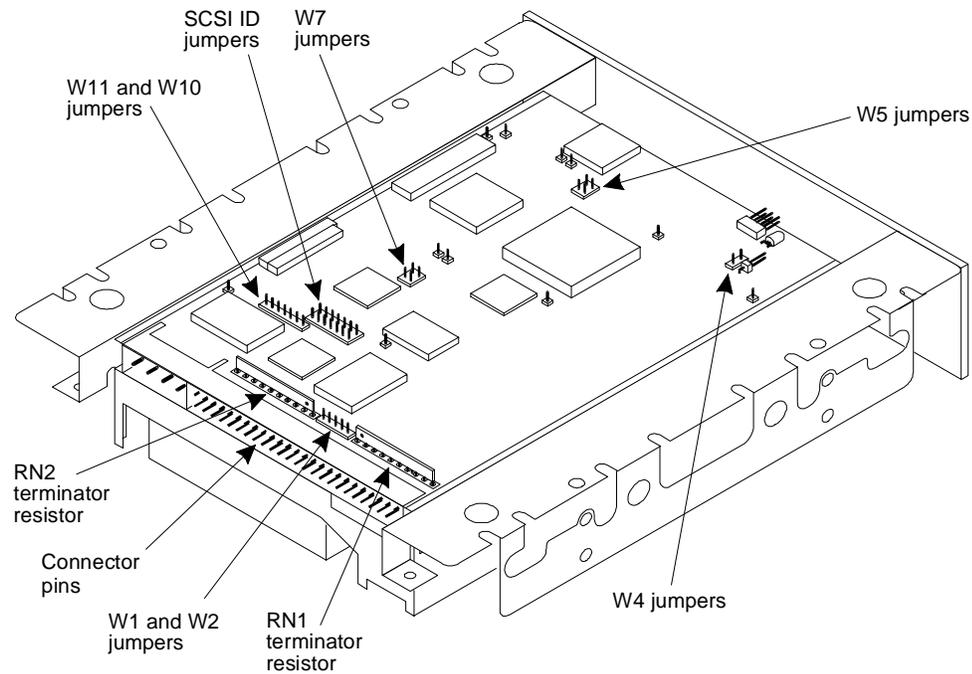
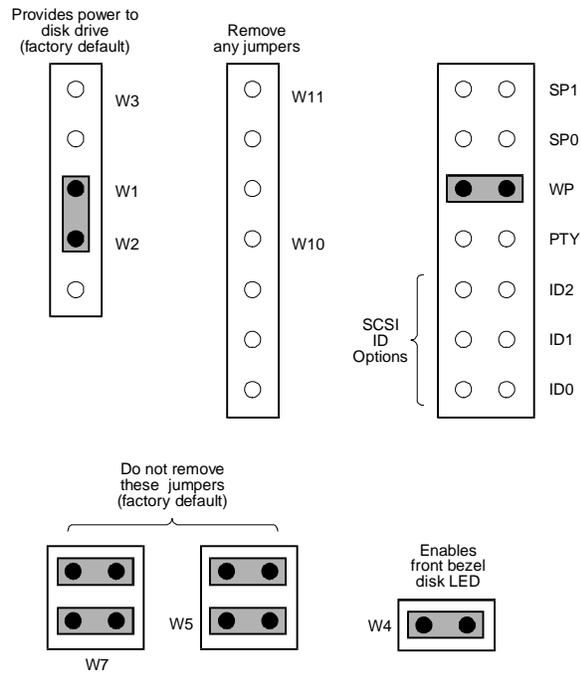
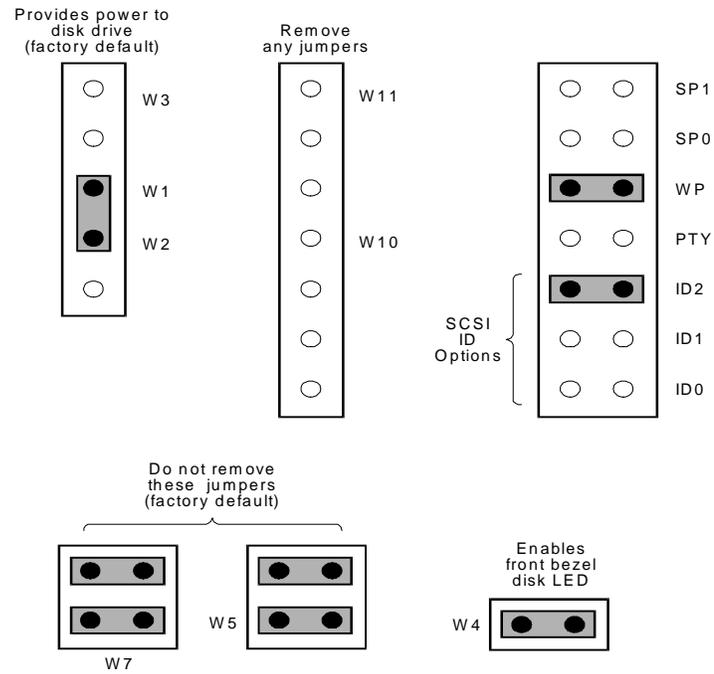

Figure 10-3. Location of Jumpers on the SCSI Hard Disk Drive
Figure 10-4. Jumper Settings for the First Disk Installed, Bay 1
Figure 10-8. Jumper Settings for the Fifth Disk Installed, Bay 2
5. Verify that the jumpers are positioned correctly (see Figure 10-3 for the location of the jumpers on the drive and Figure 10-4 through Figure 10-8 for the jumper settings). Remember that jumper settings for the SCSI ID change for each disk installed; that is, SCSI ID jumper settings for the third disk installed are different than those for the first disk installed.
1. Align the connector on the SCSI cable with the gold pins on the cable receptacle of the hard drive and push the connector into the cable receptacle (see Figure 10-3 for the location of the connector pins).